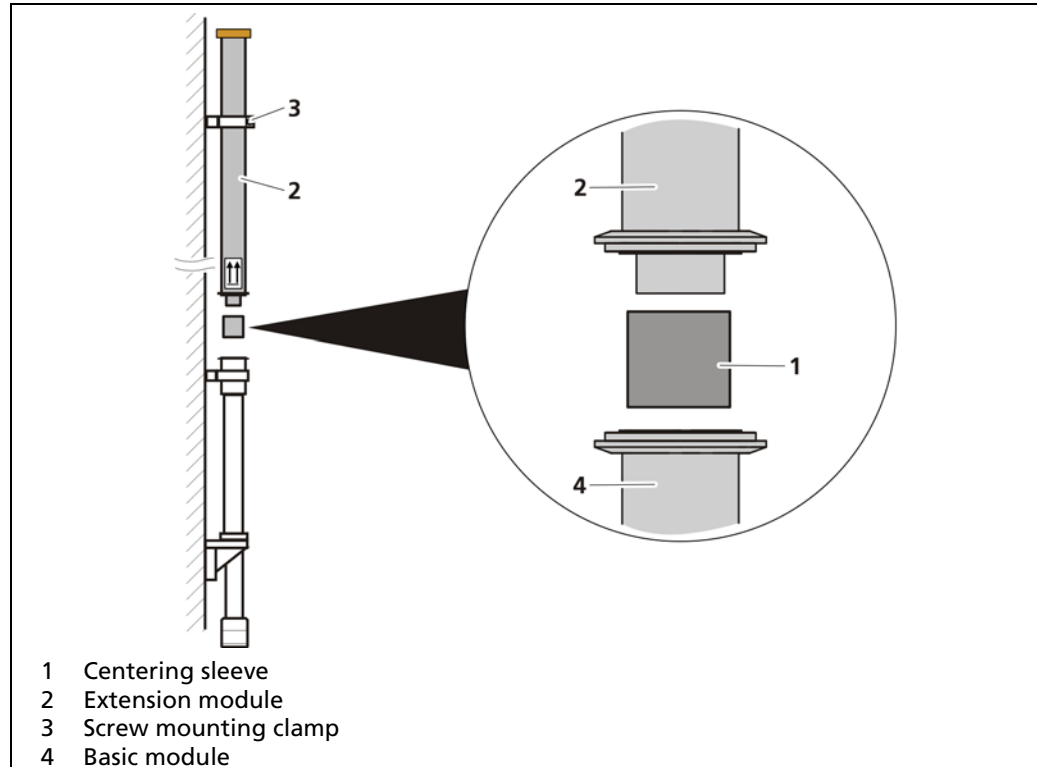

Fig. 17 Check accuracy of fit
12. Place centering sleeve (Fig. 17, item 1) in basic module.
13. Slightly open the mounting clamp (Fig. 17, item 3) of the extension module (Fig. 17, item 2) and lower it carefully into the centering sleeve of the basic module.
14. Move up the extension module and secure it by closing its mounting clamp (Fig. 17, item 3).
15. Remove centering sleeve (Fig. 17, item 1) again.